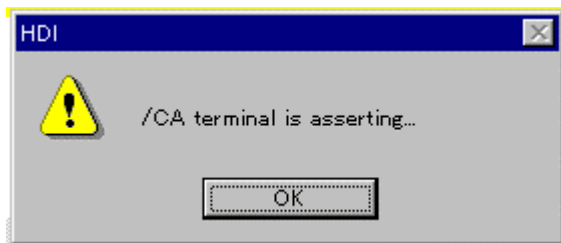

Figure 6.18 Message Box for Entering the U Standby State
1. In the software standby mode, when the /CA pin is asserted, the emulator enters the U standby state and the message box shown in figure 6.18 is displayed. To cancel the U standby state, be sure to end the message box before asserting /RESETP from the user system.